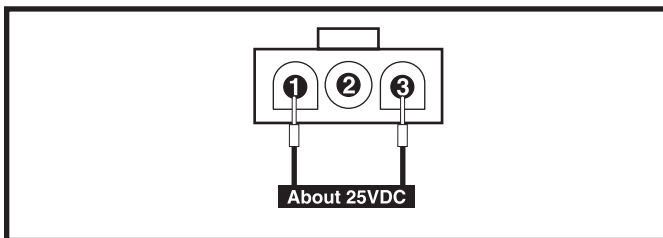

Figure 14. Connector 3b
20. Measure voltage across pin 1 and pin 3 on connector 3b. See figure 14.
- If your multimeter indicates total battery voltage (about 25VDC), then replace the battery charger (4) and retest the system.
21. Verify that the charger/inhibit harness (3) is connected to the fuse (3d) and the ammeter (3c) properly.
- If your multimeter indicates less than 1 ohm, then replace the charger/inhibit harness (3) and retest the system.